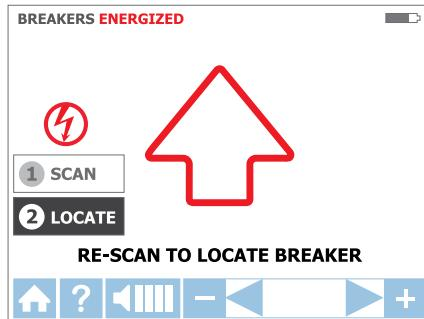

Figure 3.4c
- Select LOCATE mode by using the directional arrows to highlight this operating mode and pressing the yellow "ENTER" button. (See figure 3.4c)
- Rescan each breaker/fuse by touching each with the Tip Sensor for a half second. Active red arrow indicates scanning process (see Figure 3.4c). Make sure the groove on the Tip Sensor is parallel to the breaker lengthwise. (See Figure 3.4d)